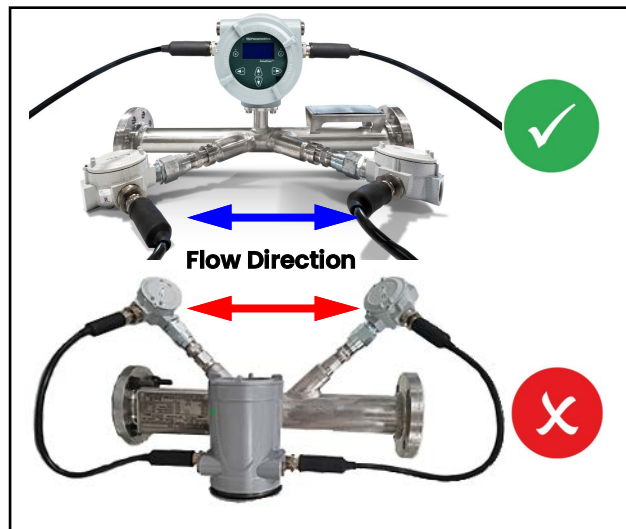

Figure 10: Good and Bad Flowcell/Transducer orientations in horizontal pipes
- Locate the transducers on a common axial plane along the pipe. Also, locate them on the side of the pipe instead of on the top or the bottom, because the top of the pipe tends to accumulate gas and the bottom tends to accumulate sediment. Either condition will cause unwanted attenuation of the ultrasonic signals. There is no similar restriction with vertical pipes, as long as the fluid flow is upward to prevent free falling of the fluid or a less than full pipe (see *Figure 10* below).